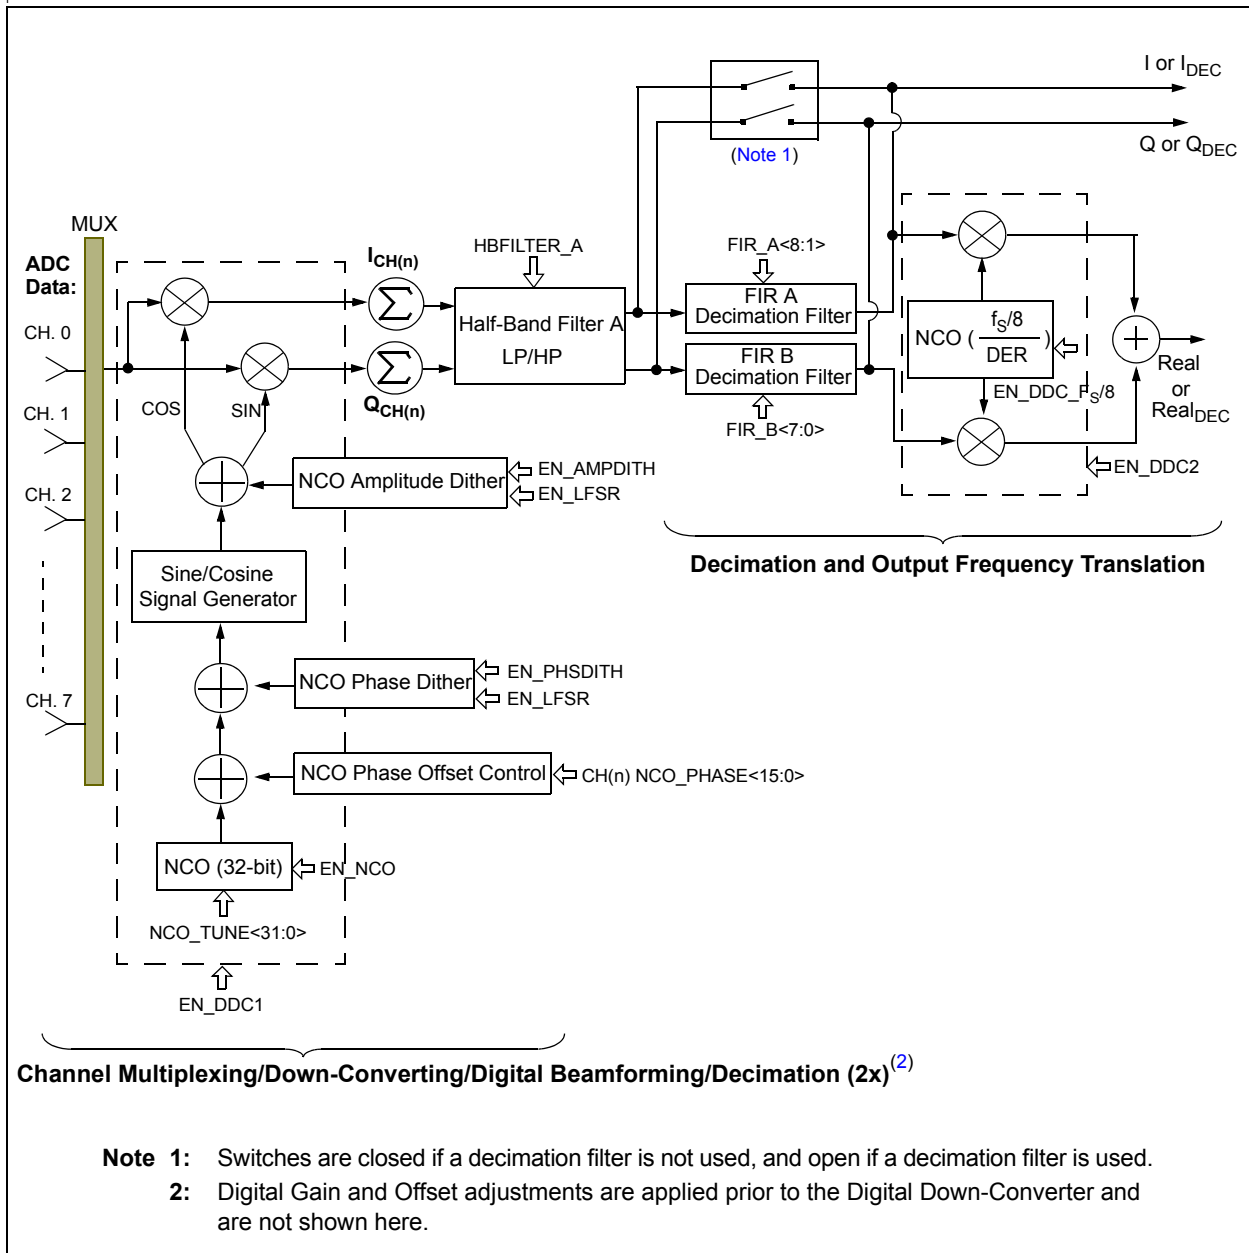

FIGURE 4-24: Simplified Block Diagram of CW Beamforming and I/Q Signal Processing - Available in MCP37D11-200 Only.
Along with beamforming, many modern medical ultrasound devices support Doppler imaging, which processes phase information in addition to the classical magnitude detection (for brightness imaging). Ultrasound Doppler signal processing is used to determine movement in the body as represented by blood flow, which can help diagnose the functioning of a heart valve or blood vessel, etc. In a traditional ultrasound system, all of these functions are typically accomplished with discrete components. **Figure 4-24** shows an example of an ultrasound system implementation using various specialized components.
- **Down-Conversion for each channel** with a unique phase of the same NCO frequency prior to summing the eight channels as shown in Figure 4-24.